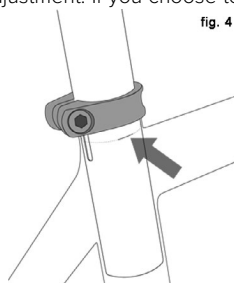

fig. 4
- re-tighten the seat post clamp to the recommended torque (see Appendix D or the manufacturer's instructions). Once the saddle is at the correct height, make sure that the seat post does not project from the frame beyond its “Minimum Insertion” or “Maximum Extension” mark (fig. 4).